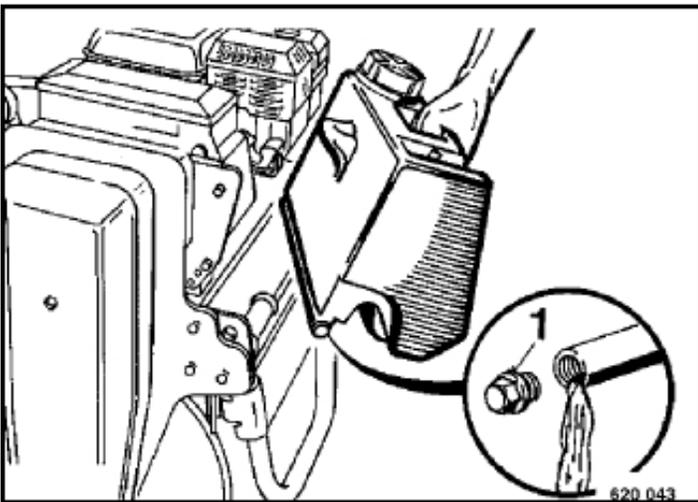

Fig. 55
- | Drain all water out of the tank by removing the plastic plug 1 (Fig. 55).